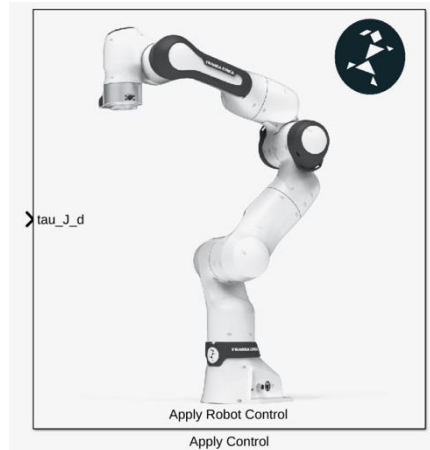

Figure 1- Apply Control block.
1. Apply Control (Figure 1): Represents the robot's block which takes the applied torque of the 7 joints as a 7x1 vector.